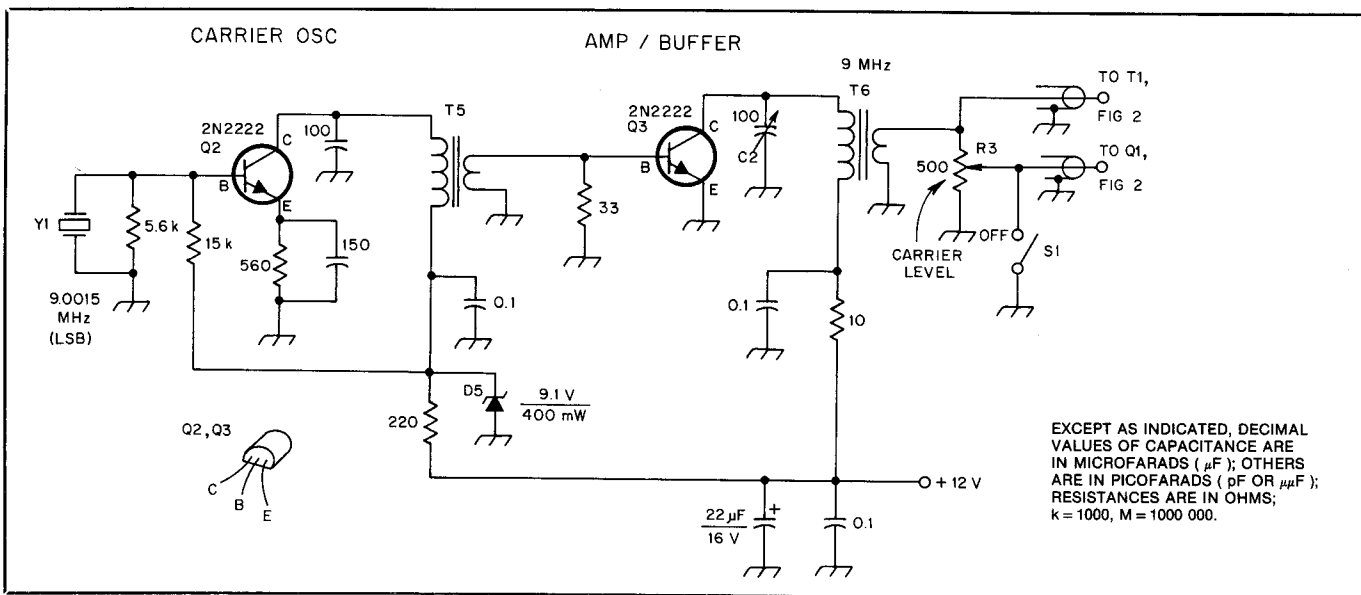

Fig. 3—Schematic diagram of a practical carrier generator. Fixed-value capacitors are disc ceramic. Resistors, other than R3, are 1/4-W carbon composition.
To produce an SSB signal, we must generate a 9-MHz carrier, then get rid of it in the balanced modulator. As ridiculous as this may seem, it is necessary! Fig. 3 shows the circuit we have adopted for our project.
R3 of Fig. 3 is a carrier-injection level control for CW work or transmitter tuning purposes. S1 is a part of R3. It shorts the output line from R3 during SSB operation. This discourages unwanted leakage of the
If you enjoy laying out your own PC boards, there is no reason you can't combine the circuits of Figs. 1 and 2 in a common module. The carrier generator of Fig. 3 should be on a separate PC board, and it would be wise to enclose this assembly in a small shield box, perhaps a homemade one fashioned from PC-board stock. The shielding will discourage 9-MHz energy from wandering about in other parts of the SSB-generator circuit. Circuit
□ The carrier-generator for the SSB series by W1FB Fig 3 (Oct 1985 *QST*, p 29) may require a series trimmer for netting the crystal, depending on the crystal traits. A wide netting range can be had by placing a $4.7\text{-}\mu\text{H}$ miniature RF choke between the series trimmer and ground. Also, should oscillation be weak when using series crystal tuning, make sure Q2 has ample gain. A 2N2222A is better than a 2N2222 or PN2222 device.